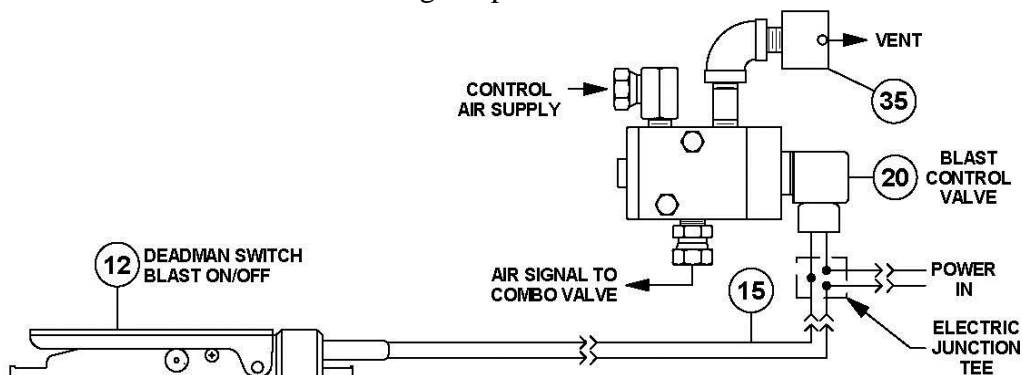

Figure 5.5 – Tera Valve™ Electric Blast Control System
5.9.2. Electric Deadman System: When the electric deadman lever (#12) is pressed down it closes the electric circuit and supplies electric current to the control valve (#20). The control valve opens and sends air signals to the auto air valve (#9) and the Tera Valve (#14). When the deadman lever is released the electric circuit is cut off closing the control valve. The signal air vents from the breather (#35). See Figure 5.5 and the drawing in Section 9.2.